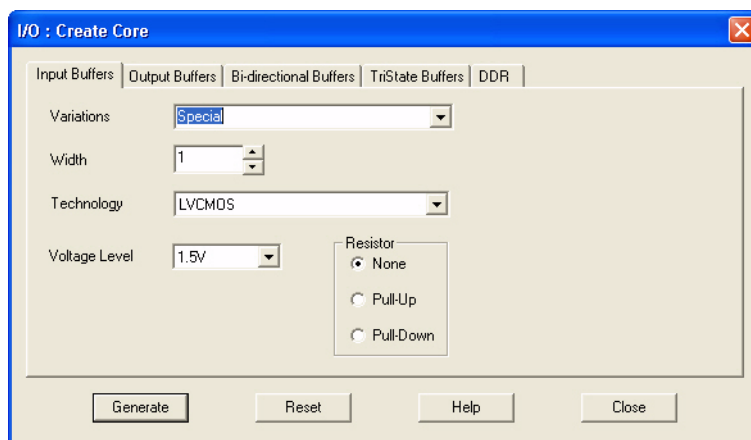

Figure 8-4 • I/O Create Core Window
- Double-click any of the varieties. The I/O Create Core window opens (Figure 8-4).
As seen in Figure 8-4, there are five tabs to configure the I/O macro: Input Buffers, Output Buffers, Bidirectional Buffers, Tristate Buffers, and DDR.
The **Special** variation has Width, Technology, Voltage Level, and Resistor Pull-Up/Down options (see Figure 8-4). All the I/O standards and supply voltages ( $V_{CC}$ ) supported for the device family are available for selection.